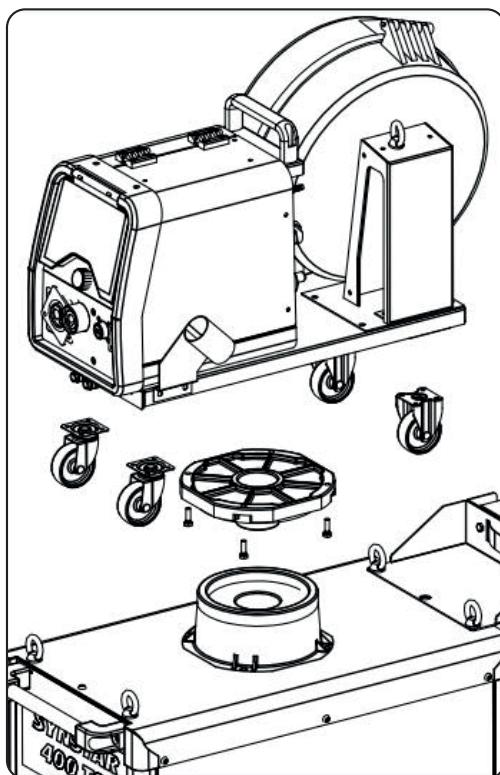

Fig. 2.
- ♦ Fit the male support to the wire feeder and the female support to the power source (see fig. 2). The small wheels must be mounted on the wire feeder base, together with the torch support (see fig. 2). The assembled wire feeder must be positioned on the power source support.